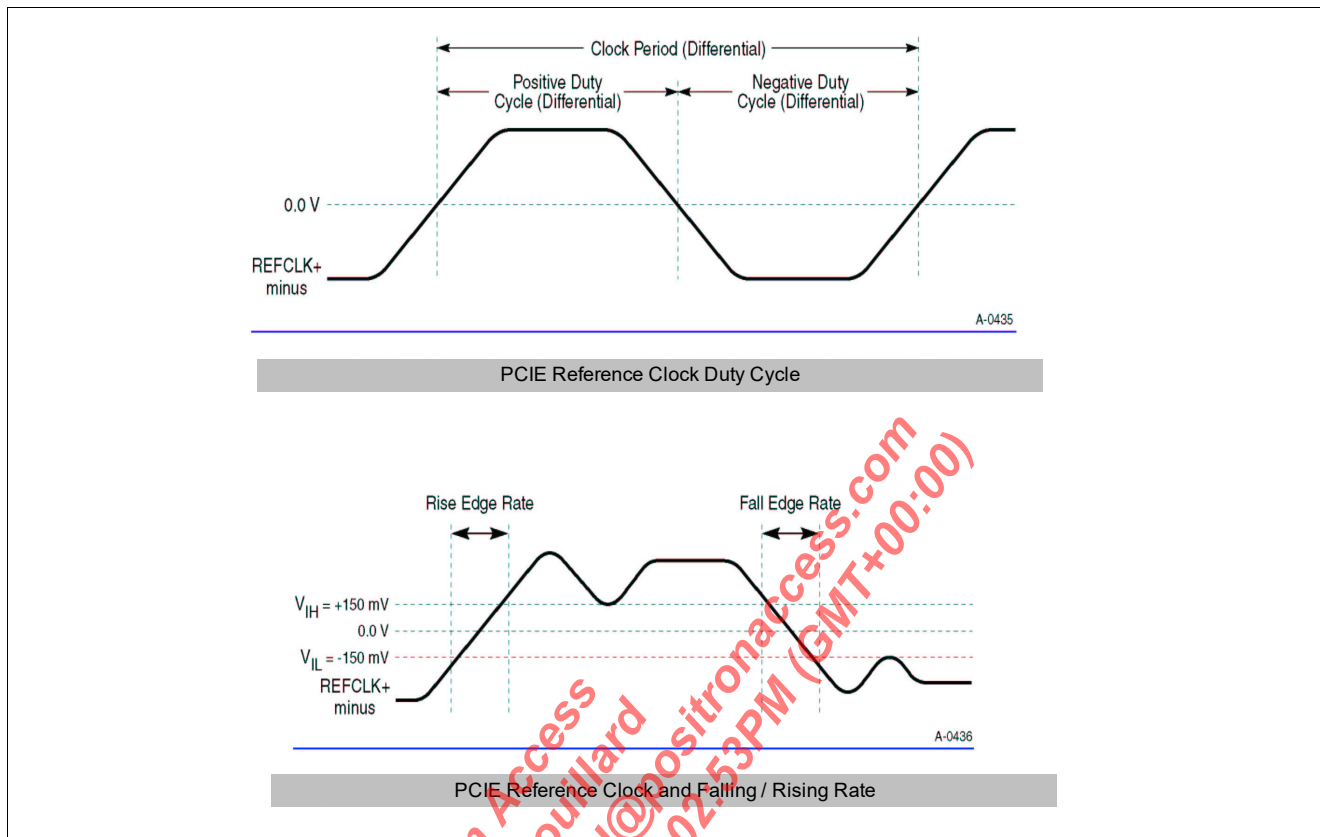

Figure 98 PCIe Clock Timing Diagram
Figure 98 describes the PCIe reference clock.
- 4) Measured between 20-80% at transmitter package pins into a test load as shown in Figure 98 for both V_{TX-D+} and V_{TX-D-} .